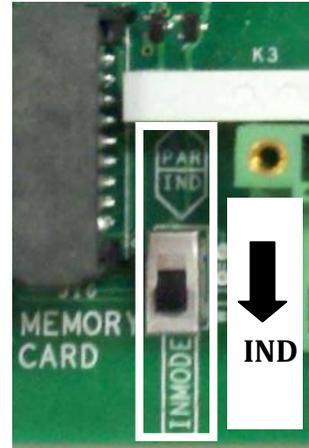

Figure 2.13 - INDEPENDENT mode switch configuration
- Place the “INMOD” switch (shown in Figure 2.13) in the “IND” (default position) position to configure the inverter controls in the independent mode.